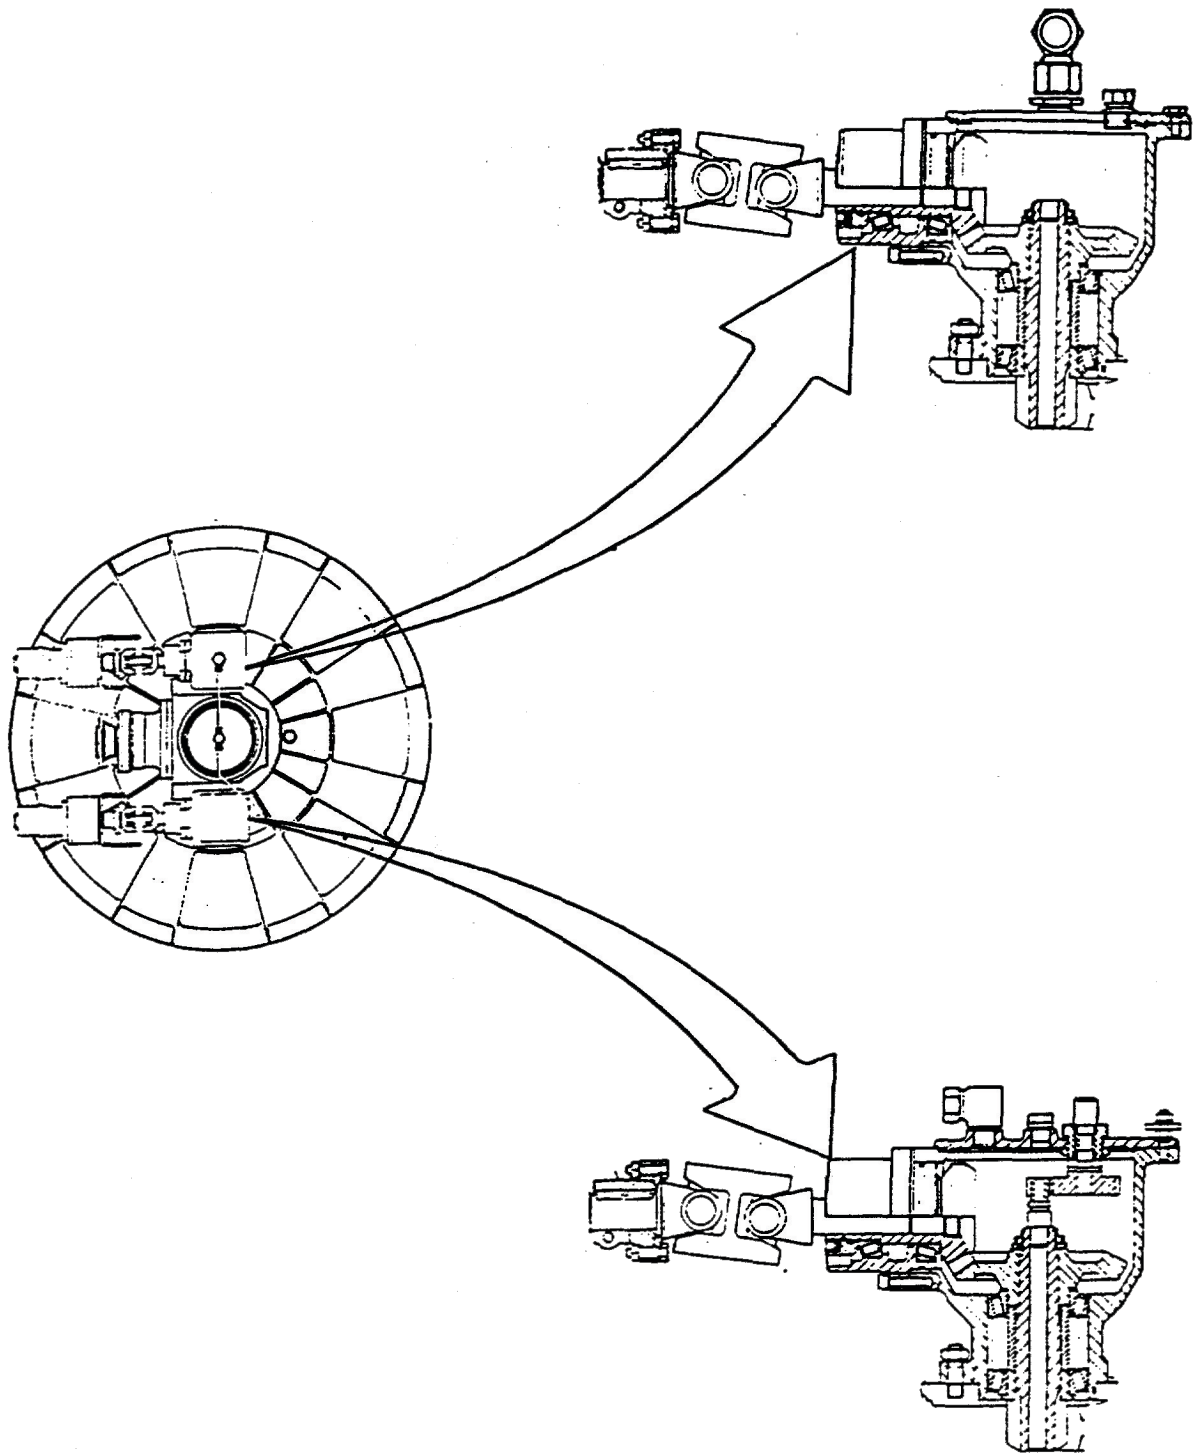

FIGURE 1-10. Steering Gear Assemblies.
h. Steering Gear. (FIGURE 1-10). The steering gear controls thrust direction by rotating the entire jet pump casing. This casing forms a volute which turns as a unit within the well enclosure. Included are the downward flared inlet to the inclined impeller wheel and the spiral configured outlet and discharge nozzle. Steering torque is applied at the steering tube to which these components are attached. A bevel gear fitted to the upper collar of the steering tube engages drive pinions of the right and left steering gear boxes. The tube and gear surround the impeller drive components but turn independently. Matching hydraulic motors drive the input shafts of these right and left gear boxes. The right gear box incorporates a geared takeoff to the rudder angle transmitter.
o. Feedback Unit. (FIGURE 1-16). The feedback unit is housed in a rectangular box mounted above the right steering gear assembly. A shaft protruding through the bottom of the box couples to the shaft protruding through the top of the steering assembly (see FIGURE 1-10). This mechanical link drives internal potentiometers whenever the steering gear is active. Electrical signals from the potentiometers operate local and remote thrust direction indicators. The local indicator is mounted on the box cover. The remote indicator is on the pilot- house control console.